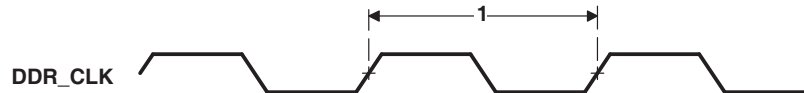

**Figure 7-26. DDR2 Memory Controller Clock Timing**
**Table 7-32. Switching Characteristics Over Recommended Operating Conditions for DDR2 Memory Controller(1) (2)(see Figure 7-26)**